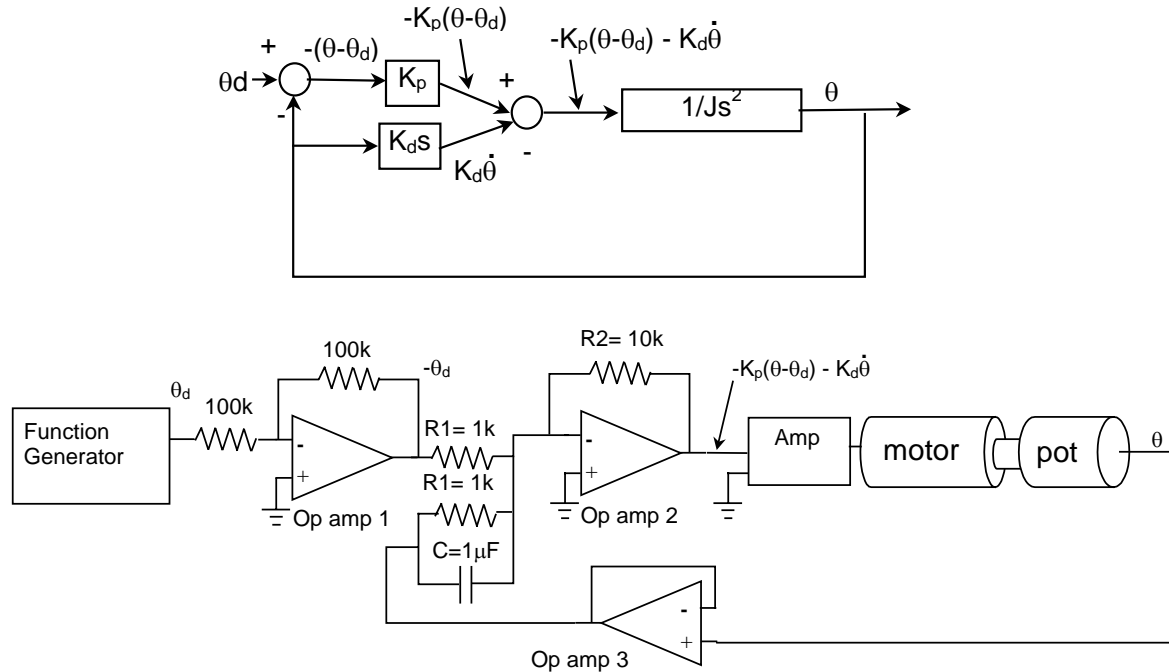

Figure 1 – PD Motor Position Control System (Block Diagram and Circuit)
Figure 1 shows the block diagram and op-amp circuit that you will implement to make the PD control law for the motor. J is the inertia of the motor shaft.
- Q3** Derive the closed-loop transfer function, $G(s)$, for the controlled system (the input is θ_d , the output is θ). Use either block diagram algebra (applied to the block diagram from Figure 1) or take the Laplace Transform of the differential equation that you derived in Q1.
To implement the PD control law, you need to build the circuit shown in Figure 1.
- Q6** Compare this equation with the control law of equation (1). What are K_P and K_d in terms of the electronic components (resistor and capacitor values)? How would you increase the damping of the system?.
- Q7** Briefly describe the specific purpose for each of the op-amps in Figure 1.
Construct the circuit in Figure 1. *Important: wire your circuit neatly! A neat circuit requires little extra time to wire, and it's easier to debug. Circuits often take much more time to debug than they do to initially wire!* Make sure to hook up the potentiometer correctly! The wiper of the pot should **not** be connected to the power supply!